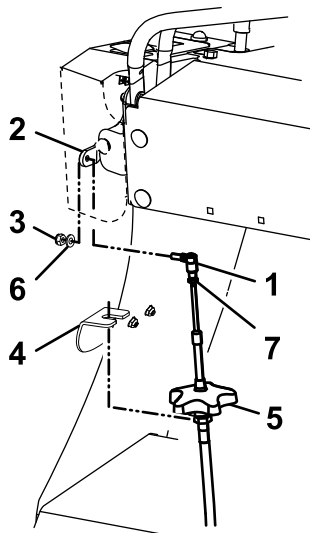

Figure 6
1. Ensuring that the cable ball joint is securely attached to the cable, connect the ball joint to the control arm and secure it with a washer and locknut (1/4 inch) as shown in Figure 6.
6. Move the flow control lever forward and rearward, making sure that the gate arm fully opens and closes. If it does not close, loosen the knob and/or nuts to adjust the cable until the gate can be fully closed; tighten all components. Make sure that the jam nut has been securely tightened against the cable ball joint after all adjustments have been made (Figure 6).